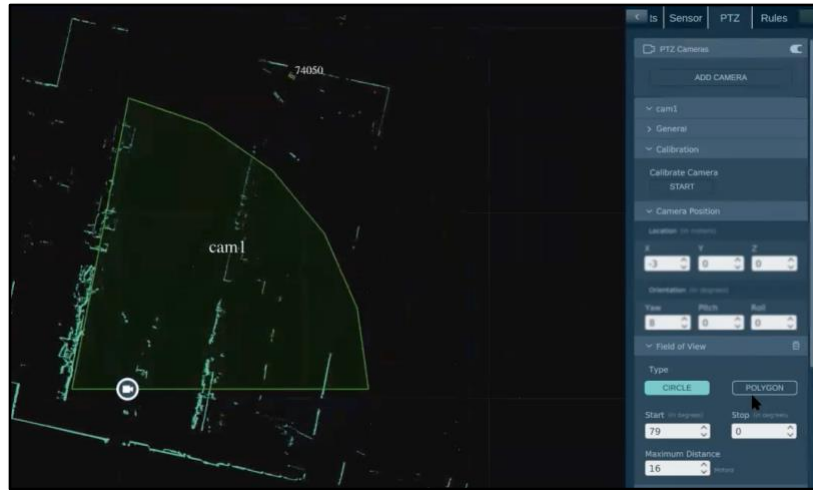

Figure 77. PTZ Camera Circle FOV
4. **Circle FOV**. See Figure 77. PTZ Camera Circle FOV.